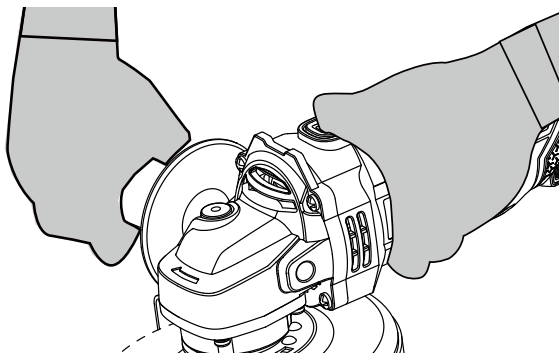

Figure 5
1. HAND GRIP AREAS (SEE FIG. 5)